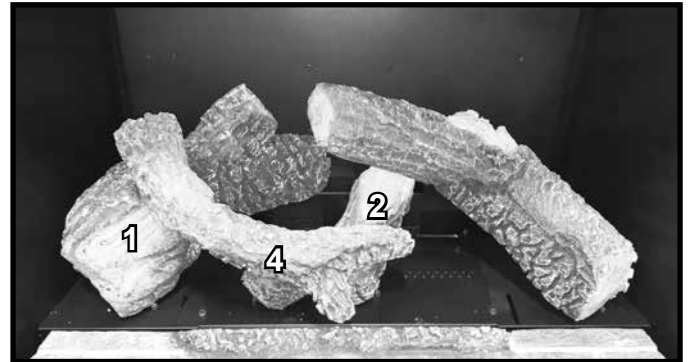

Figure 22. Log #4 Installed
**LOG #4:** Set the non-Y end of log 4 on the flat spot of Log #1. The end of Log #4 will sit flush with the back of Log #1. The Y-end of Log #4 will sit on the flat spot of Log #2. See Figure 22.